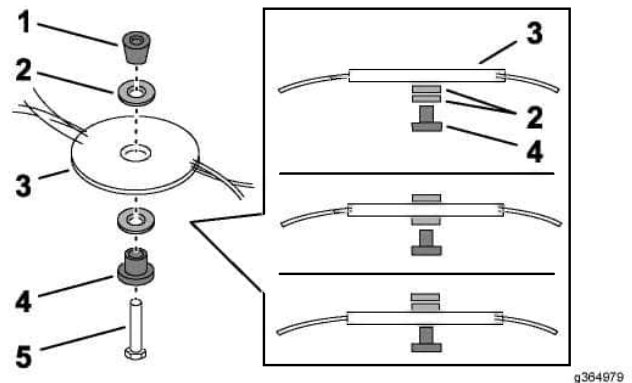

Figure 29
5. Use the wrench provided with the machine to remove the cutting disc by turning the bolt counterclockwise \(Figure 29\), saving all the mounting hardware.